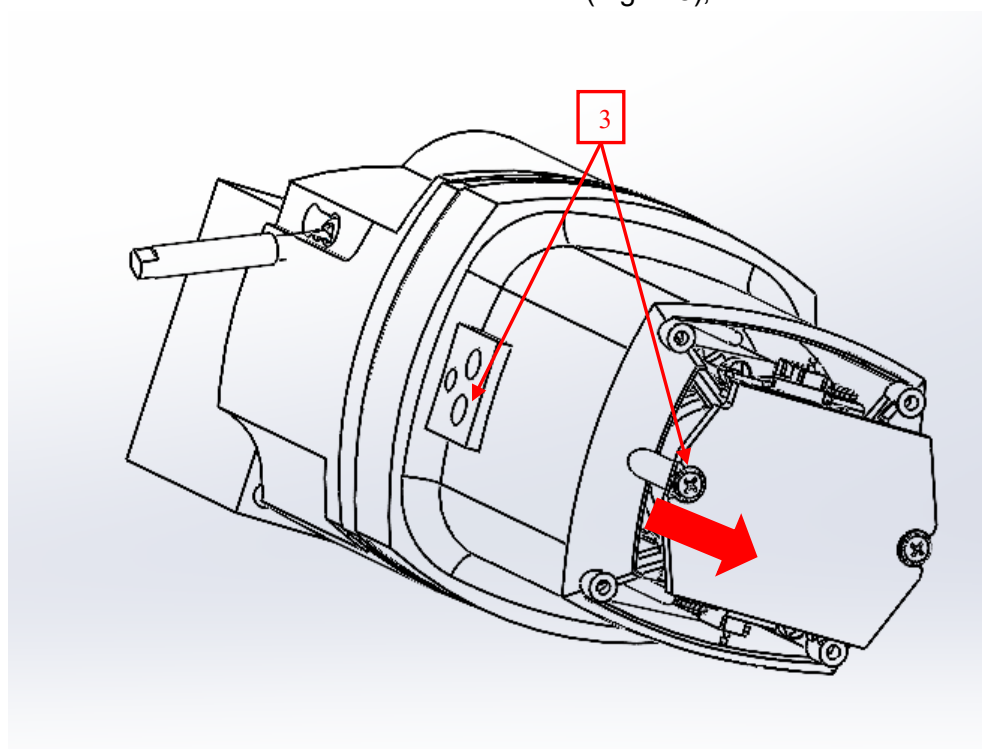

Figure 1.8
- 1.2.3 Unscrew the two screws as shown in figure 1.8 – position 3 and pull the motor board in the direction of the arrow (Fig. 1.8);